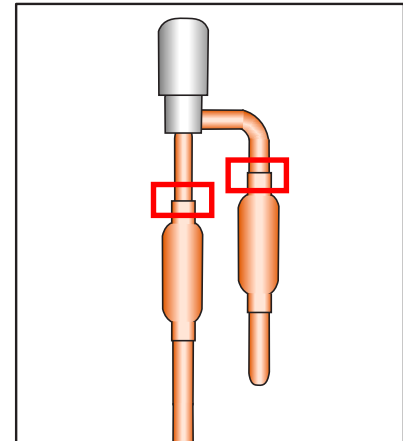

Fig18.Removing the brazing part
- (c) Remove the brazing part. (□ mark, Fig.18)